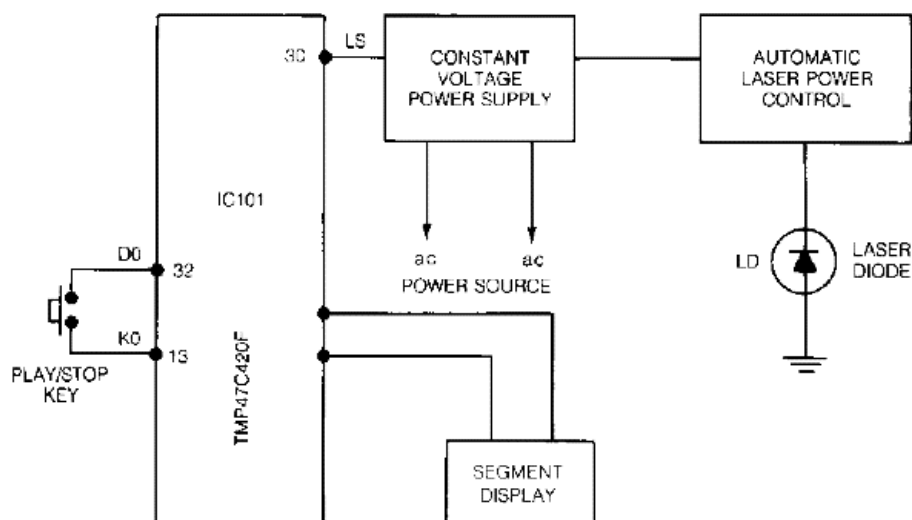

FIGURE 31-10 IC101 lowers the dc supply voltage to the laser diode when a disc is loaded.
Yamaha YCD-1000 interlock operation The car compact disc player reads the disc signals by laser-beam operation. The human body must not be directly exposed to the laser beam. This unit is, therefore, equipped with an interlock to prevent the unwanted and unnecessary laser output. The laser outputs are controlled by the injection or cutoff of the constant voltage source to the laser diode at pin 30 (LS) of IC101 (Fig. 31-10) and also by an automatic laser power-control circuit. When pin 30 is in “H” (high) level, the laser emits the beam. When pin 30 is in the “L” (low) level, the laser does not emit the beam.